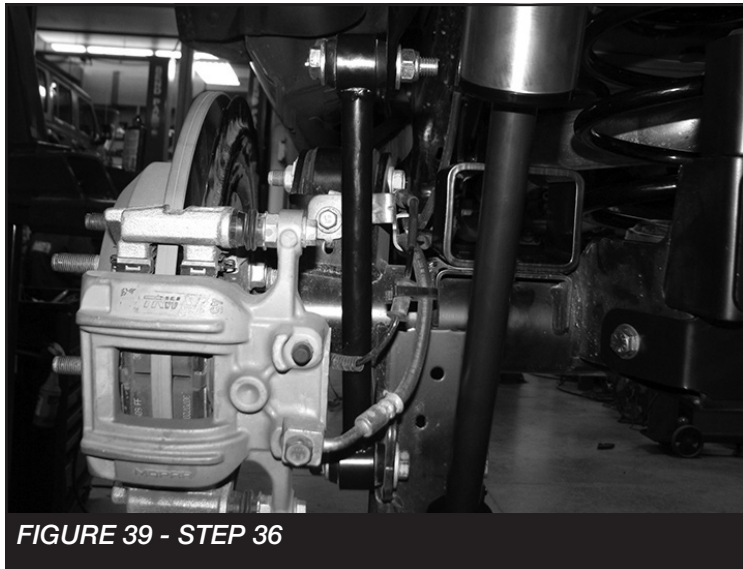

FIGURE 39 - STEP 36
36. Install the FT50048 (Bushings) and FT404739 (Sleeves) into FT50026BK (Rear sway bar links). Then, install the new links to the sway bar and sway bar mount on the axle using supplied M12 x 70mm hardware for the upper location and the factory for the lower. Torque to 65 ft-lbs **SEE FIGURE 39**